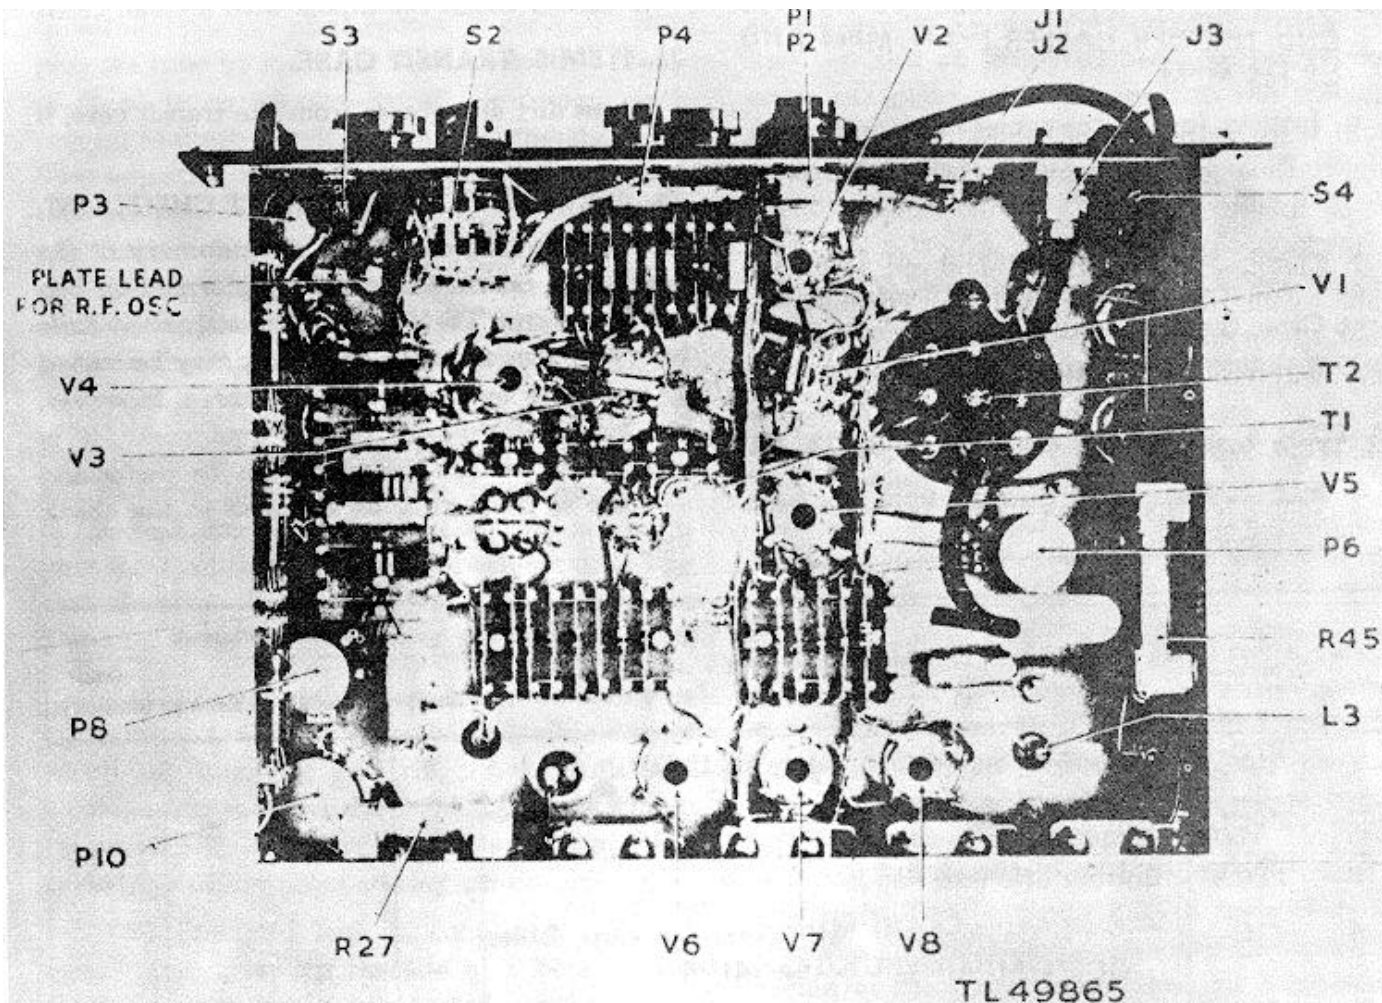

Figure 11. Bottom of chassis
22. ITEM 3, BOTTOM OF CHASSIS (fig. 11).